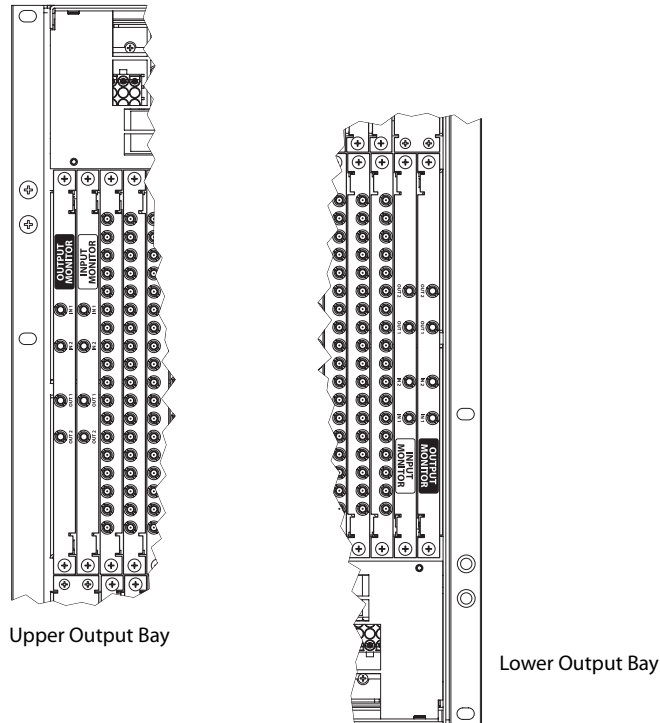

Figure 2-22. Monitor Backplanes
1 Locate the output monitor backplanes. Figure 2-22 is an example of the NV8576 router:
- NV8576 or NV8576-Plus—there are four monitor backplanes: two are located in the upper region to the left of the output cards; two are located in the lower region to the right of the output cards, as shown in Figure 2-22.